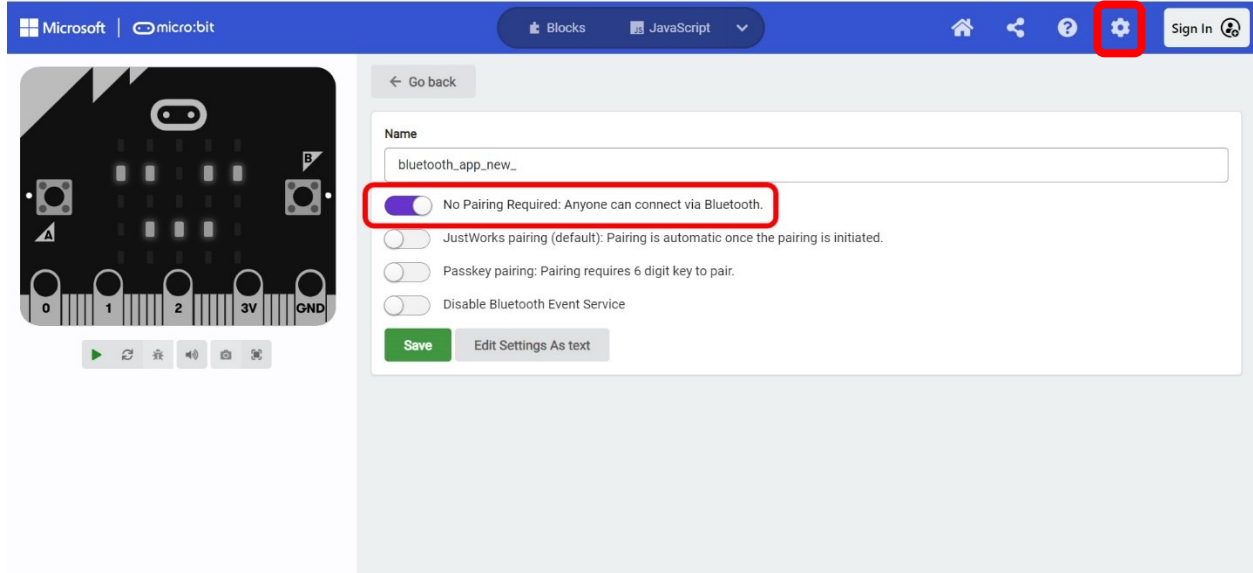

Figure 11: Checking the Project settings menu
**A)** Before downloading the final script to micro:bit, make sure that “No Pairing Required: Anyone can connect via Bluetooth” option is selected, in the Project settings menu. To check this parameter, click on the Gear symbol, and from the floating menu, click on the “Project settings” (Figure 11). Then activate the “No Pairing Required: Anyone can connect via Bluetooth” option.